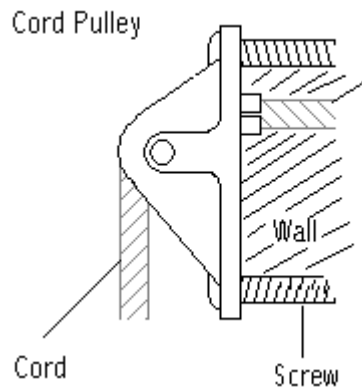

Figure 7:
- D. From inside, the cord should be fed through the back of the Cord Pulley and allowed to hang over the Pulley mechanism, see Figure 7. Fit the Pulley onto the wall making sure the cord opening fits in the drilled hole and mark the upper and lower hole locations.